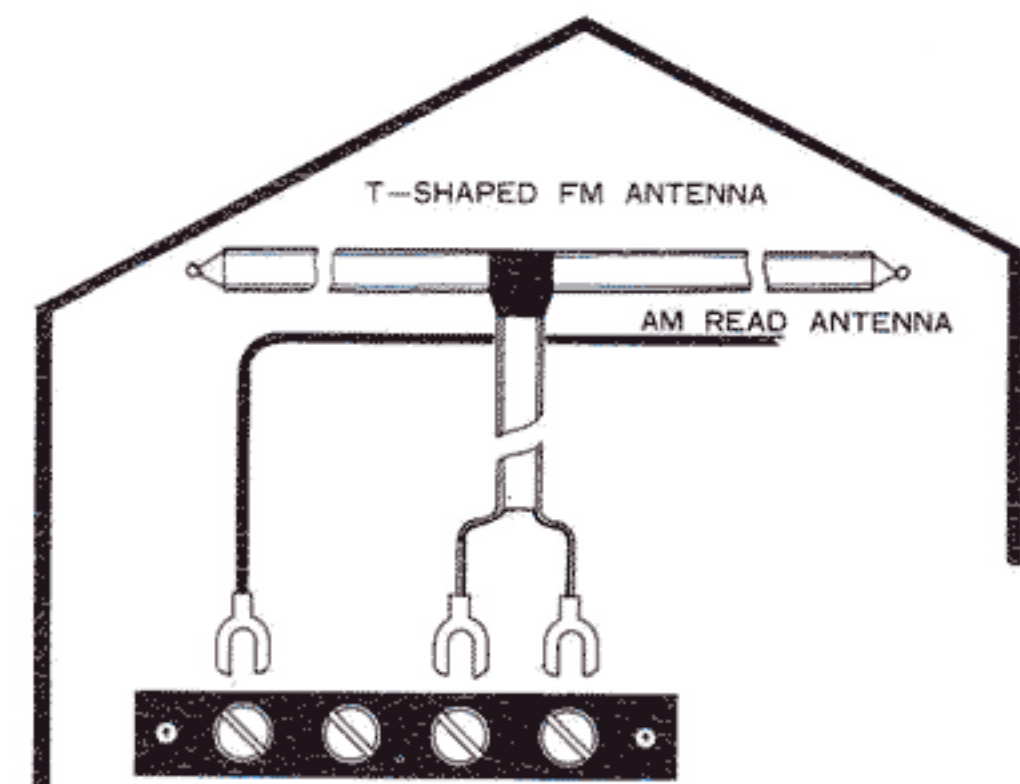

Fig. 7
- * Employ the T-type indoor antenna accessory to the receiver when using the receiver within a wooden building near the FM radio station. Connect the end of the vertical section of the T-type antenna to the FM ANTENNA TERMINALS (25) as shown in Fig. 7, and expand the horizontal section of the T-type antenna. While actually receiving broadcast, determine the direction of the horizontal section for the best radio reception and fix it on a wall or other place. Refer to the article "RECEPTION OF FM BROADCAST" regarding the determination of the antenna direction.
- * If good reception cannot be attained even by properly adjusting the direction of the AM FERRITE ANTENNA, use the accessory AM lead wire antenna. Connect one end of the antenna to the AM ANTENNA TERMINAL (23) and expand the wire along a wall of the room. (Fig. 7)